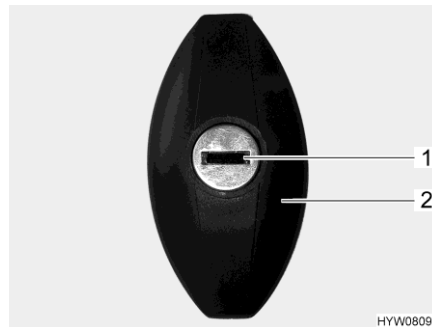

Fig. 20 Flap lock (elliptical-shaped, closed)
- Insert key into locking cylinder (Fig. 20,1) and turn one half turn in an anticlockwise direction. The lock handle (Fig. 20,2) snaps out.